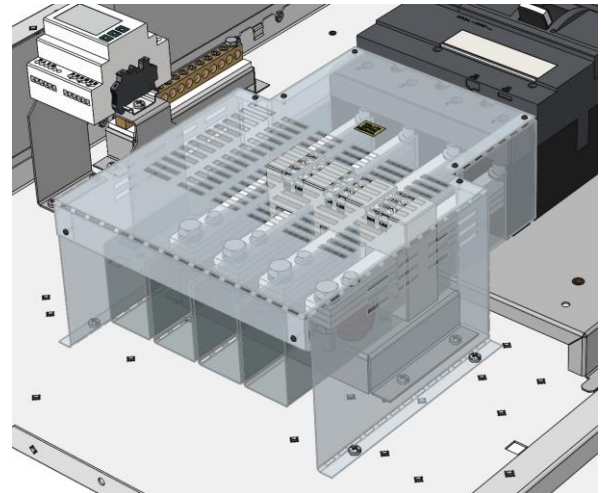

Fig. 6
- Assemble and install the shroud by using 4 off 6.5 mm screws. Refer to Fig. 6 for details